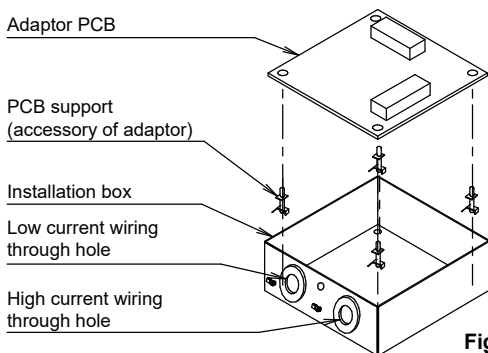

Figure 2
- II. Install the adapter PCB on the installation box using the PCB supports (4 pcs.) (refer to Figure 2).